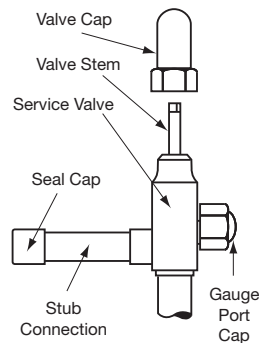

Figure 1
2. Locate the liquid and suction line service valves. Check that the piping connection stubs on the valves (Figure 1) line up properly with the holes in the unit cabinet.